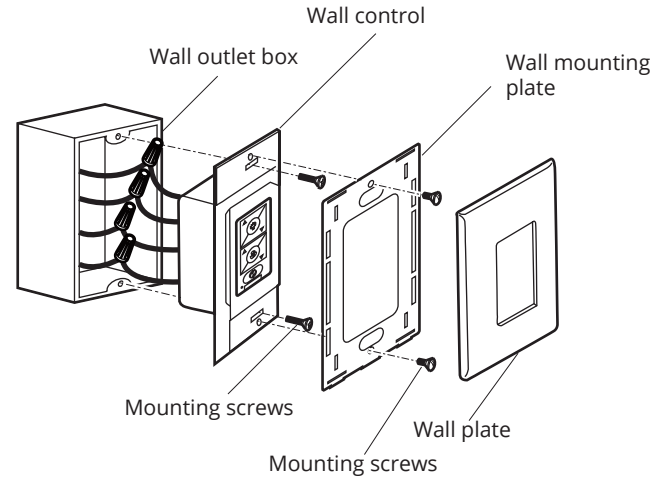

FIGURE 16
3. Slide the canopy up to the mounting bracket and place the key hole on the canopy over the screw on the mounting bracket. Turn canopy until it locks in place at the narrow section of the key holes (Fig. 16).